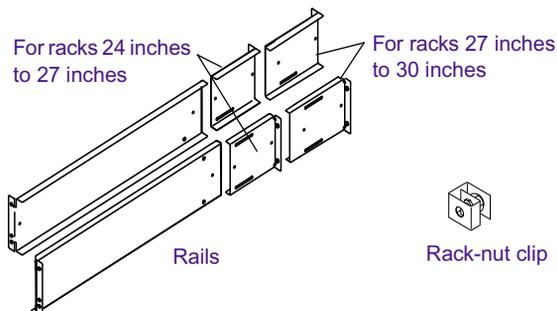

Figure 43 Rack-Mount Kit Contents
- Six sections of rails (see Figure 43)
2. Locate the correct set of support rails in the rail kit that allow you to create two rails 24 inches to 27 inches or two rails 27 inches to 30 inches. Figure 43 shows the rails.